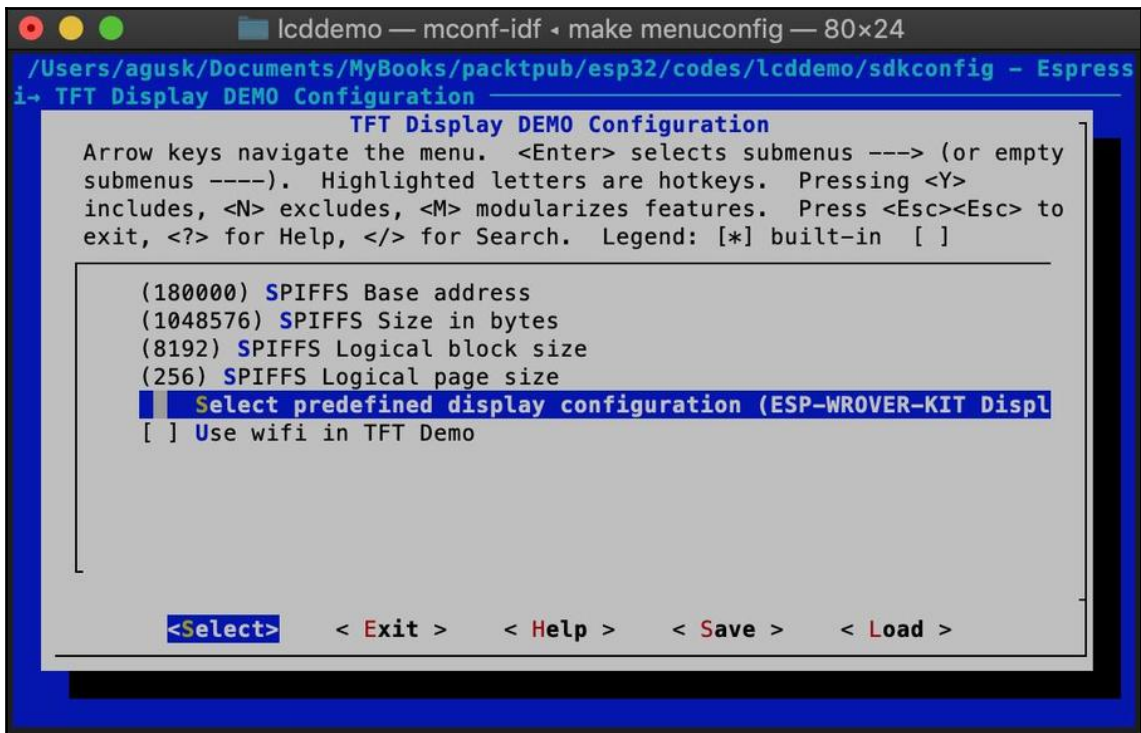

Figure 2-10: Selecting the predefined display configuration
4. You will get a form as shown in Figure 2-10. You can select `Select` predefined display configuration: